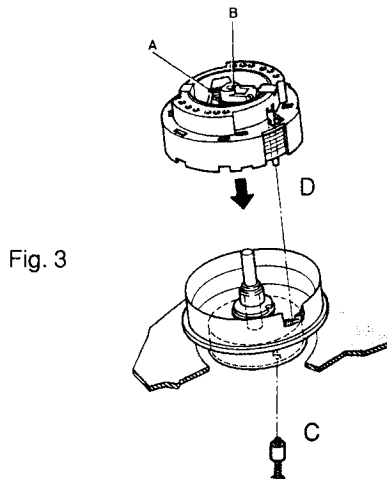

Fig. 3
- Insert the reference pin C (included with each service head disc) through the hole in bottom of the scanner motor and turn the head disc until the pin snaps in the hole of the rotor (Fig. 3).
- Press the head disc down at the centre of the protective cover B (Fig. 3) with a force of 1 N.